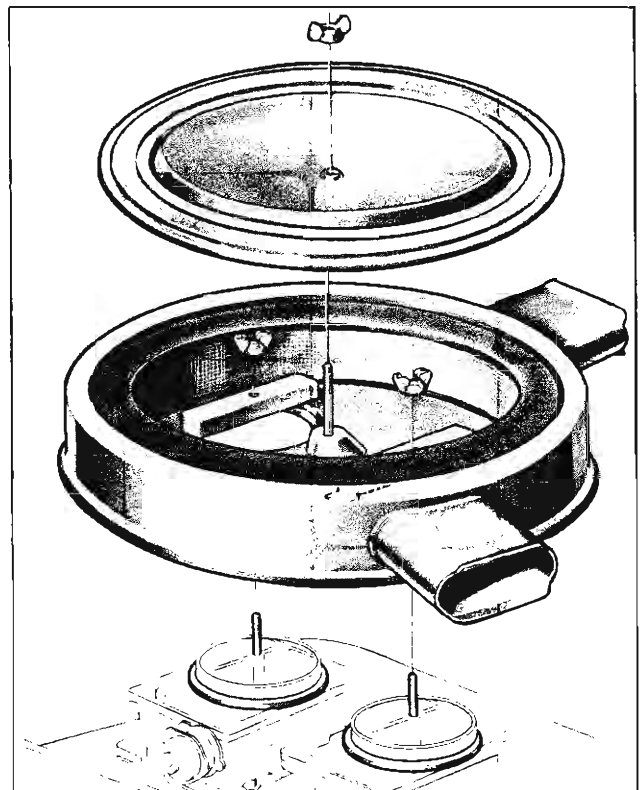

Fig. 91—Air Cleaners
2. Remove air cleaner (fig. 91) and both throttle pull-back springs.